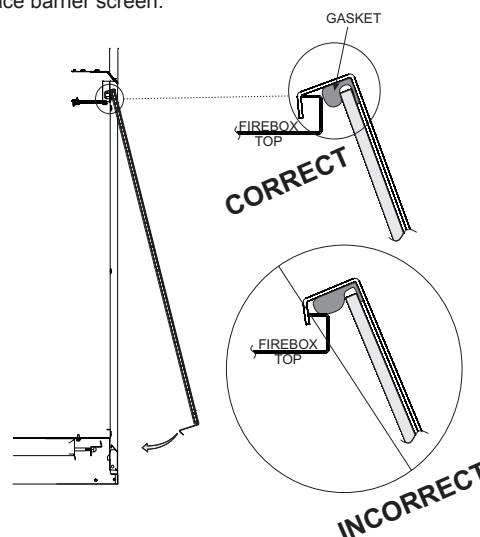

Figure 34
1. When installing the Glass Door assembly, make sure that the door top flange is hooked over the firebox top flange as illustrated in the "Correct" view in Figure 34.
Important: Do not allow the gasket across the top of the door to roll up on top of the firebox flange as shown in "Incorrect" view in Figure 34.